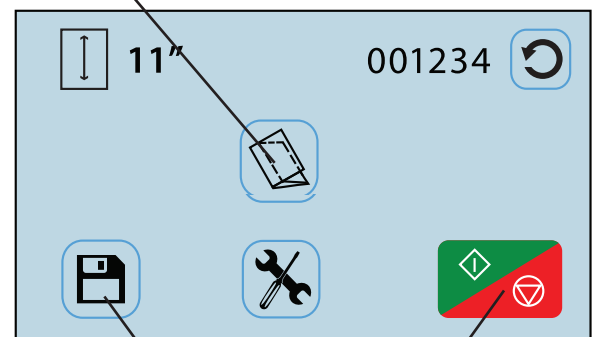

Fig. 5a
3. Select the type of fold desired by pressing the fold selection icon  (Fig. 5a). Note: *If the fold selection icon shows the desired fold press the "Start/Stop" icon  to begin processing forms.*